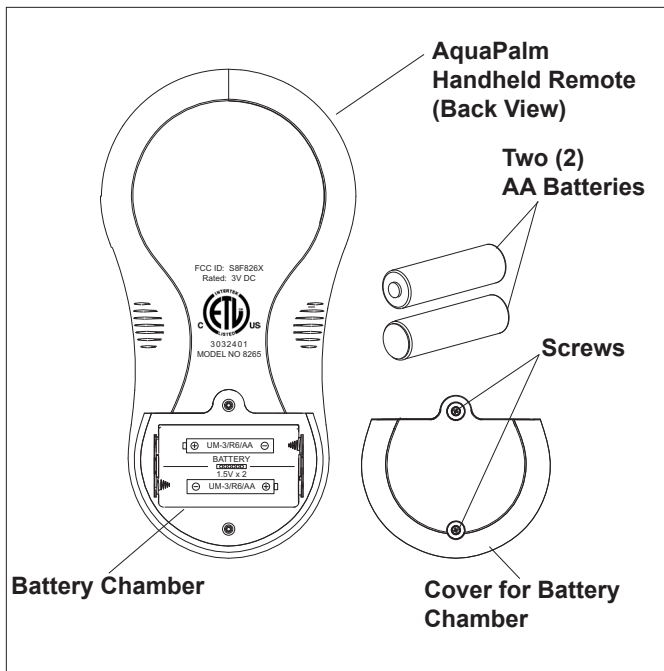

Figure 5. Battery Installation on Handheld Remote
2. On the back of the Handheld Remote, loosen and remove the two (2) screws that secure the cover for the battery chamber (see Figure 5).
3. Install two (2) AA batteries. Ensure that the polarity is correct.